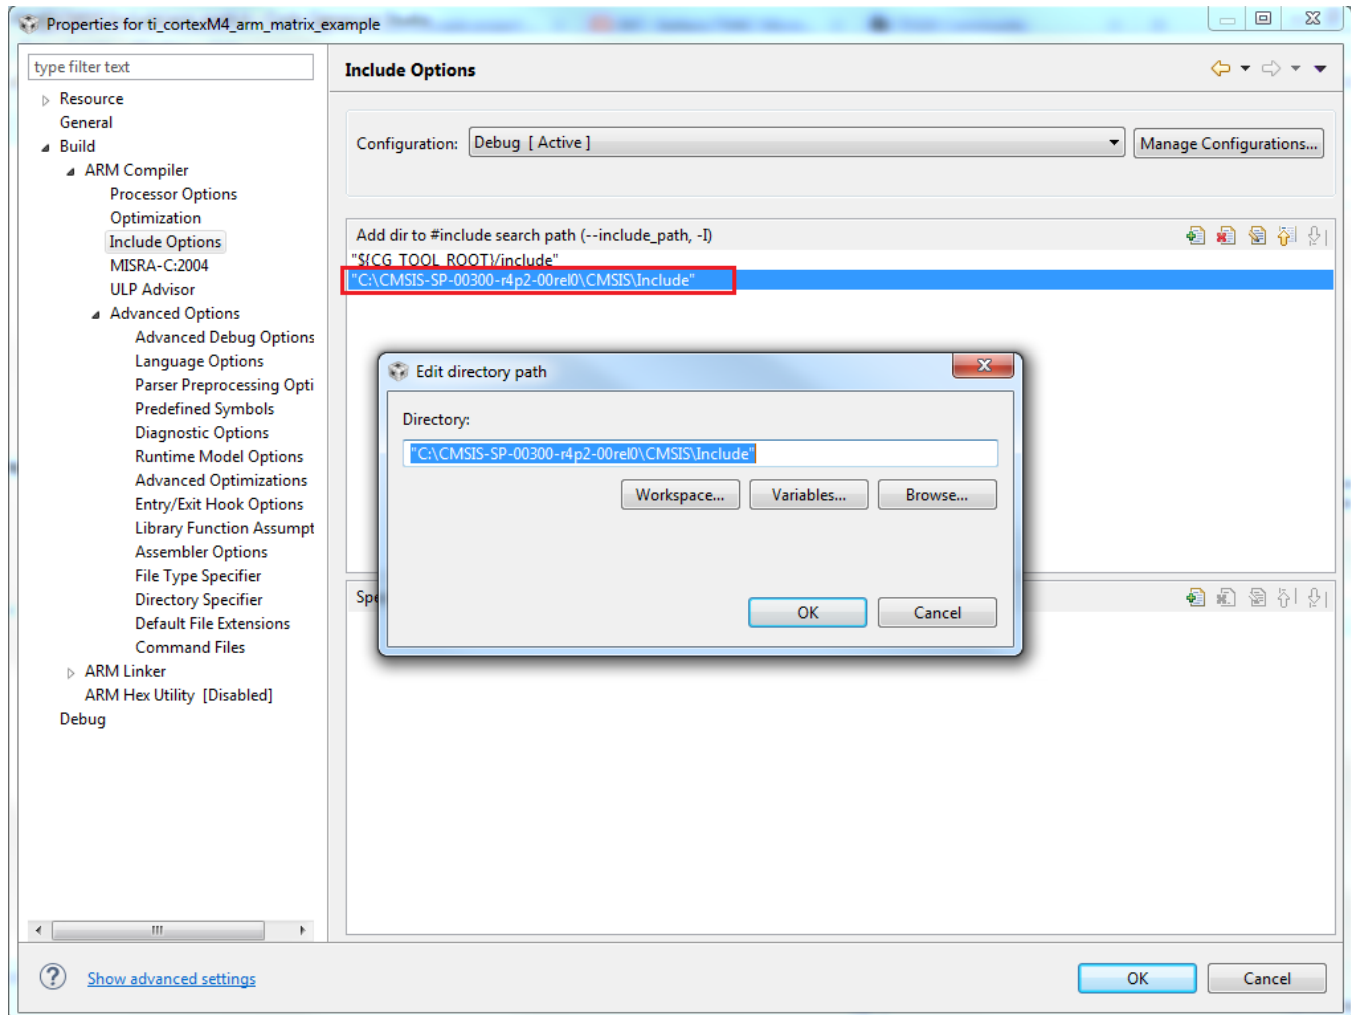

Figure 21. Compiler's #include Search Path Modified to Contain Both the Base CMSIS Include Directory and the Example Projects' Common Include Directory
- Click the *Add...* button again, then the *Browse* button and browse to the Include directory located in the CMSIS directory, then click **OK** (see Figure 21).